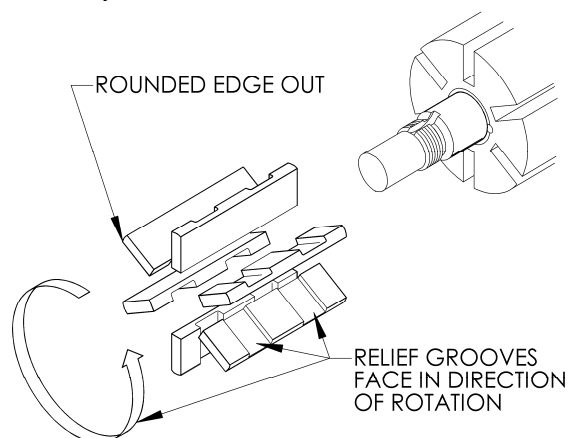
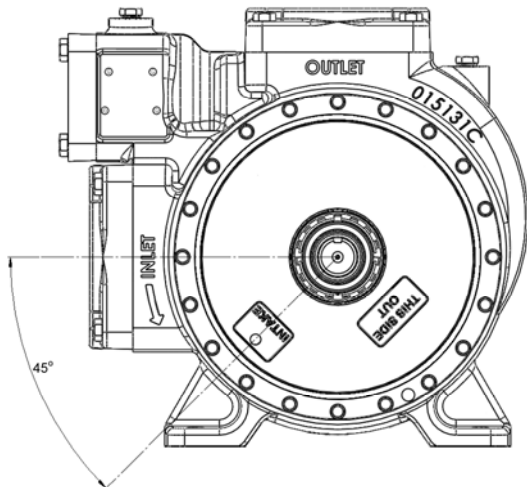

Figure 8 – Vane Installation
Figure 9 - Disc Relief Hole Location
3. Turn the shaft by hand until a vane (14) comes to the top (12 o'clock) position of the rotor. Remove the vane.
4. Install a new vane (14), ensuring that the rounded edge is UP, and the relief grooves are facing towards the direction of rotation. See Figure 8.
1. On 2-inch pump models, apply grease to the liner key groove in the pump casing to hold the key (74) in place during liner installation. Install key in groove before starting liner (41) into pump casing (12). On 3-inch pump models, install the liner key (74) in the groove on top of the liner (41).
2. Align the liner key (74) with the pump casing keyway and start the liner (41) into the casing (12) with the slots in the liner towards the INTAKE port, and the hole pattern in the liner towards the DISCHARGE port. Uniformly tap the outer edge of the liner with a rubber mallet to fully insert into the casing. NOTE: If the liner is installed backwards, it will restrict the port openings and cause cavitation, noise and loss of capacity.
3. Place the disc (71) against the liner (41) with the seal cavity outward and disc relief hole located as shown in Figure 9.
4. Without installing the head O-ring or mechanical seal components, temporarily attach the outboard head (20) and bearing (24) to the casing (12). Install and hand tighten two head capscrews (21), 180 degrees apart. This head will be used to hold and align the rotor and shaft (13) while the inboard side of the pump is assembled.
5. Remove the vanes (14) and push rods (77) from the rotor and shaft assembly (13). Inspect for wear and damage, and replace as follows:
- a. Partially install the non-driven end of the rotor and shaft (13) into the open side of the pump casing (12).
- b. Leave part of the rotor outside of the casing (12) so that the bottom vanes (14) can be installed and held in place as the push rods (77) are installed in the push rod holes of the rotor. Insert the new vanes into the rotor slots with the rounded edges outward, and the vane relief grooves facing TOWARDS the direction of rotation. See Figure 8.
- c. After the bottom vanes and push rods are installed, insert the rotor and shaft (13) fully into the casing (12).
- d. Install the remaining vanes (14) into the top positions of the rotor.
6. Install the disc (71) on the inboard side of the pump with the seal cavity facing outward and the disc relief hole located as shown in Figure 9.